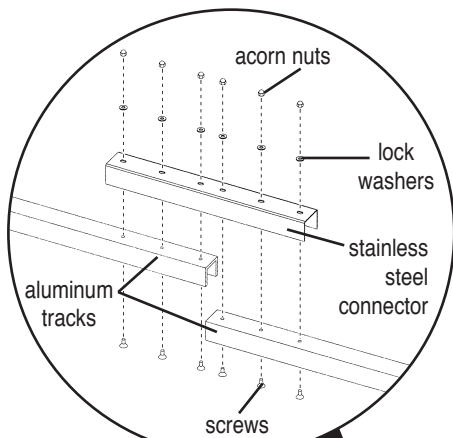

Figure 3
1. Lay track on flat surface. Locate the end of the track that has only three holes. This will be the joining end. Butt both joining ends together and place the stainless steel connector on top of the track. Align holes, and screw the pieces together as shown in *Figure 3* using screw, lock washer, and acorn nut.